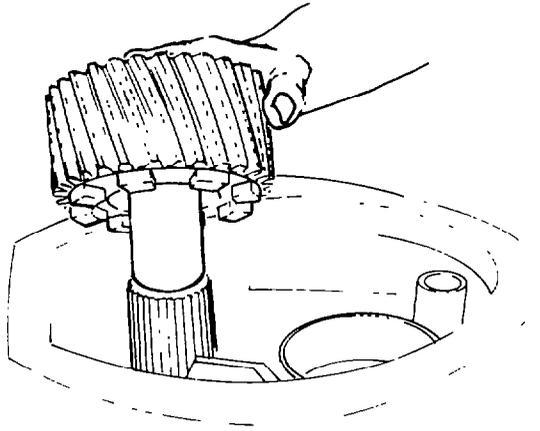

Fig. 222 — Removing Front Drive Gear
- i. Remove the front drive gear from the front drive shaft (see fig. 222).